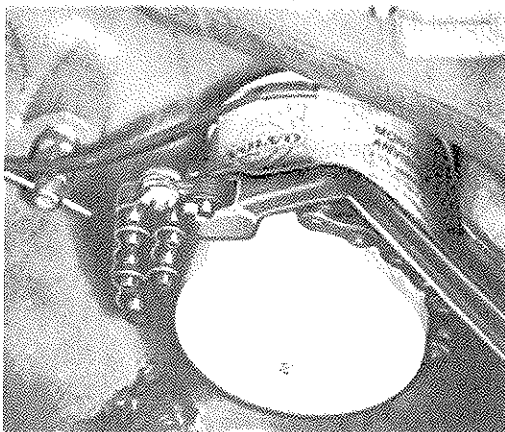

Fig. D5. Removing the oil filter
1. Remove the old filter with the help of chain tongs according to Fig. D5.